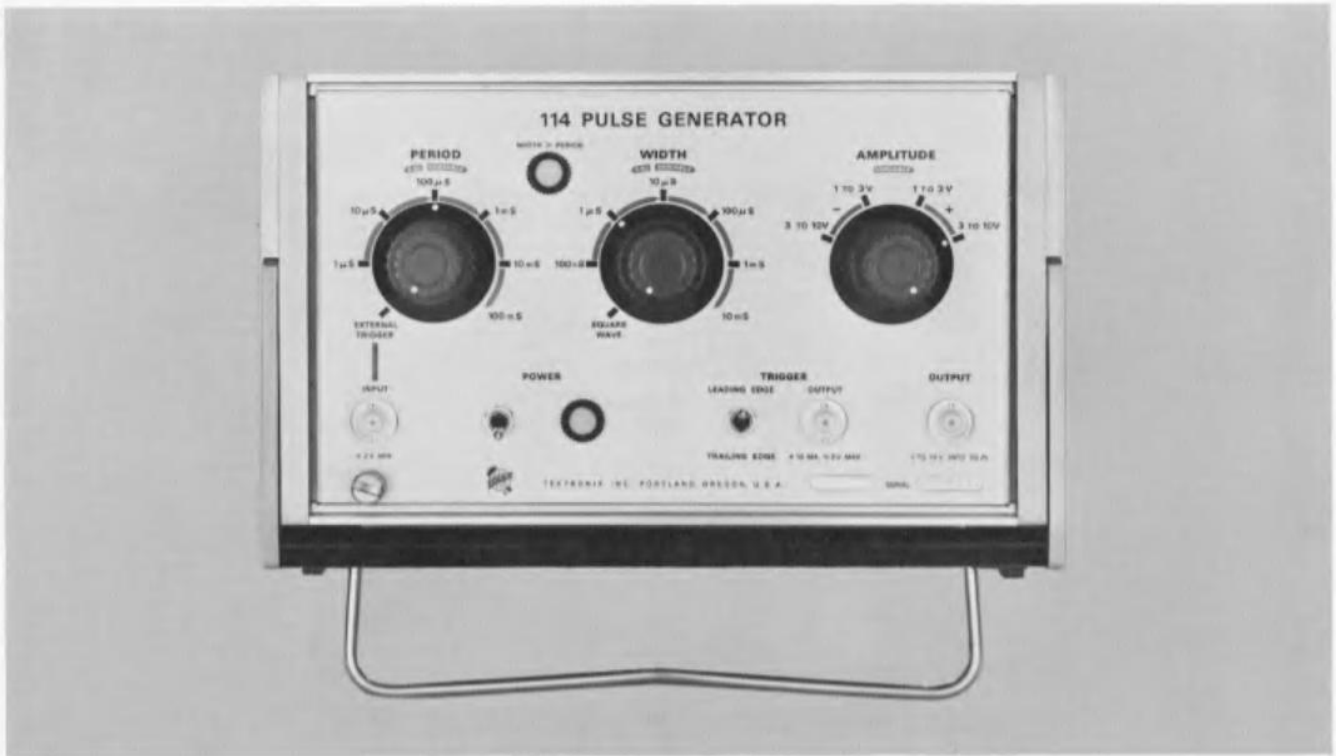
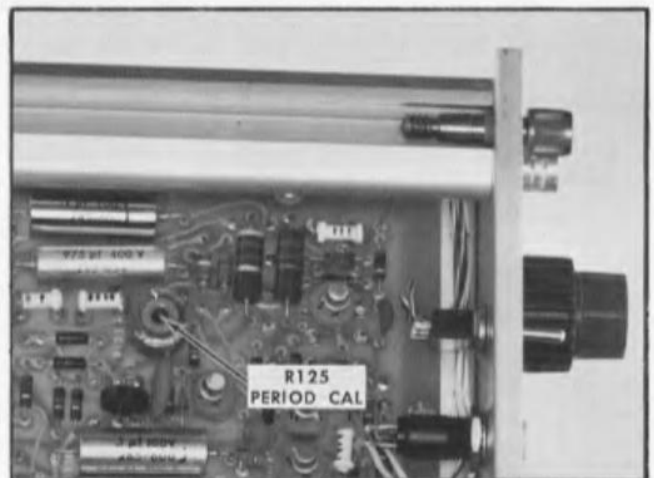
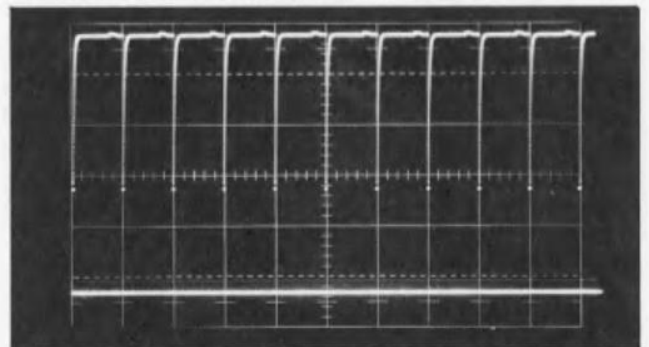

Fig. 4-5. Control settings for PERIOD CAL adjustment.
Fig. 4-6. Location of PERIOD CAL control R125.
Fig. 4-7. Crt display showing correct adjustment of PERIOD CAL control.
a. Set the Type 114 WIDTH — VARIABLE control to CAL. Turn the WIDTH control to $1 \mu\text{s}$ and the PERIOD control to $100 \mu\text{s}$ (see Fig. 4-5).
e. Set the Type 547 HORIZONTAL DISPLAY switch to B. Set the TIME/CM (B) switch to .1 mSEC. Set the TRIGGERING-SOURCE switch to INT-NORM, the SLOPE switch to —, and the MODE switch to TRIG. Adjust the TRIGGERING LEVEL control for a stable display of the 100 microsecond markers from the Type 180A.
g. Adjust the PERIOD CAL control R125 (see Fig. 4-6) so that the corresponding pulses in the two traces are aligned horizontally to within $\frac{1}{2}\%$ (see Fig. 4-7).
d. Set the Type 547 TIME/CM (B) switch to 10 mSEC and adjust the TRIGGERING LEVEL control for a stable display.
e. Check for horizontal alignment between the two sets of markers (see Fig. 4-7). Horizontal alignment should be within 3%.